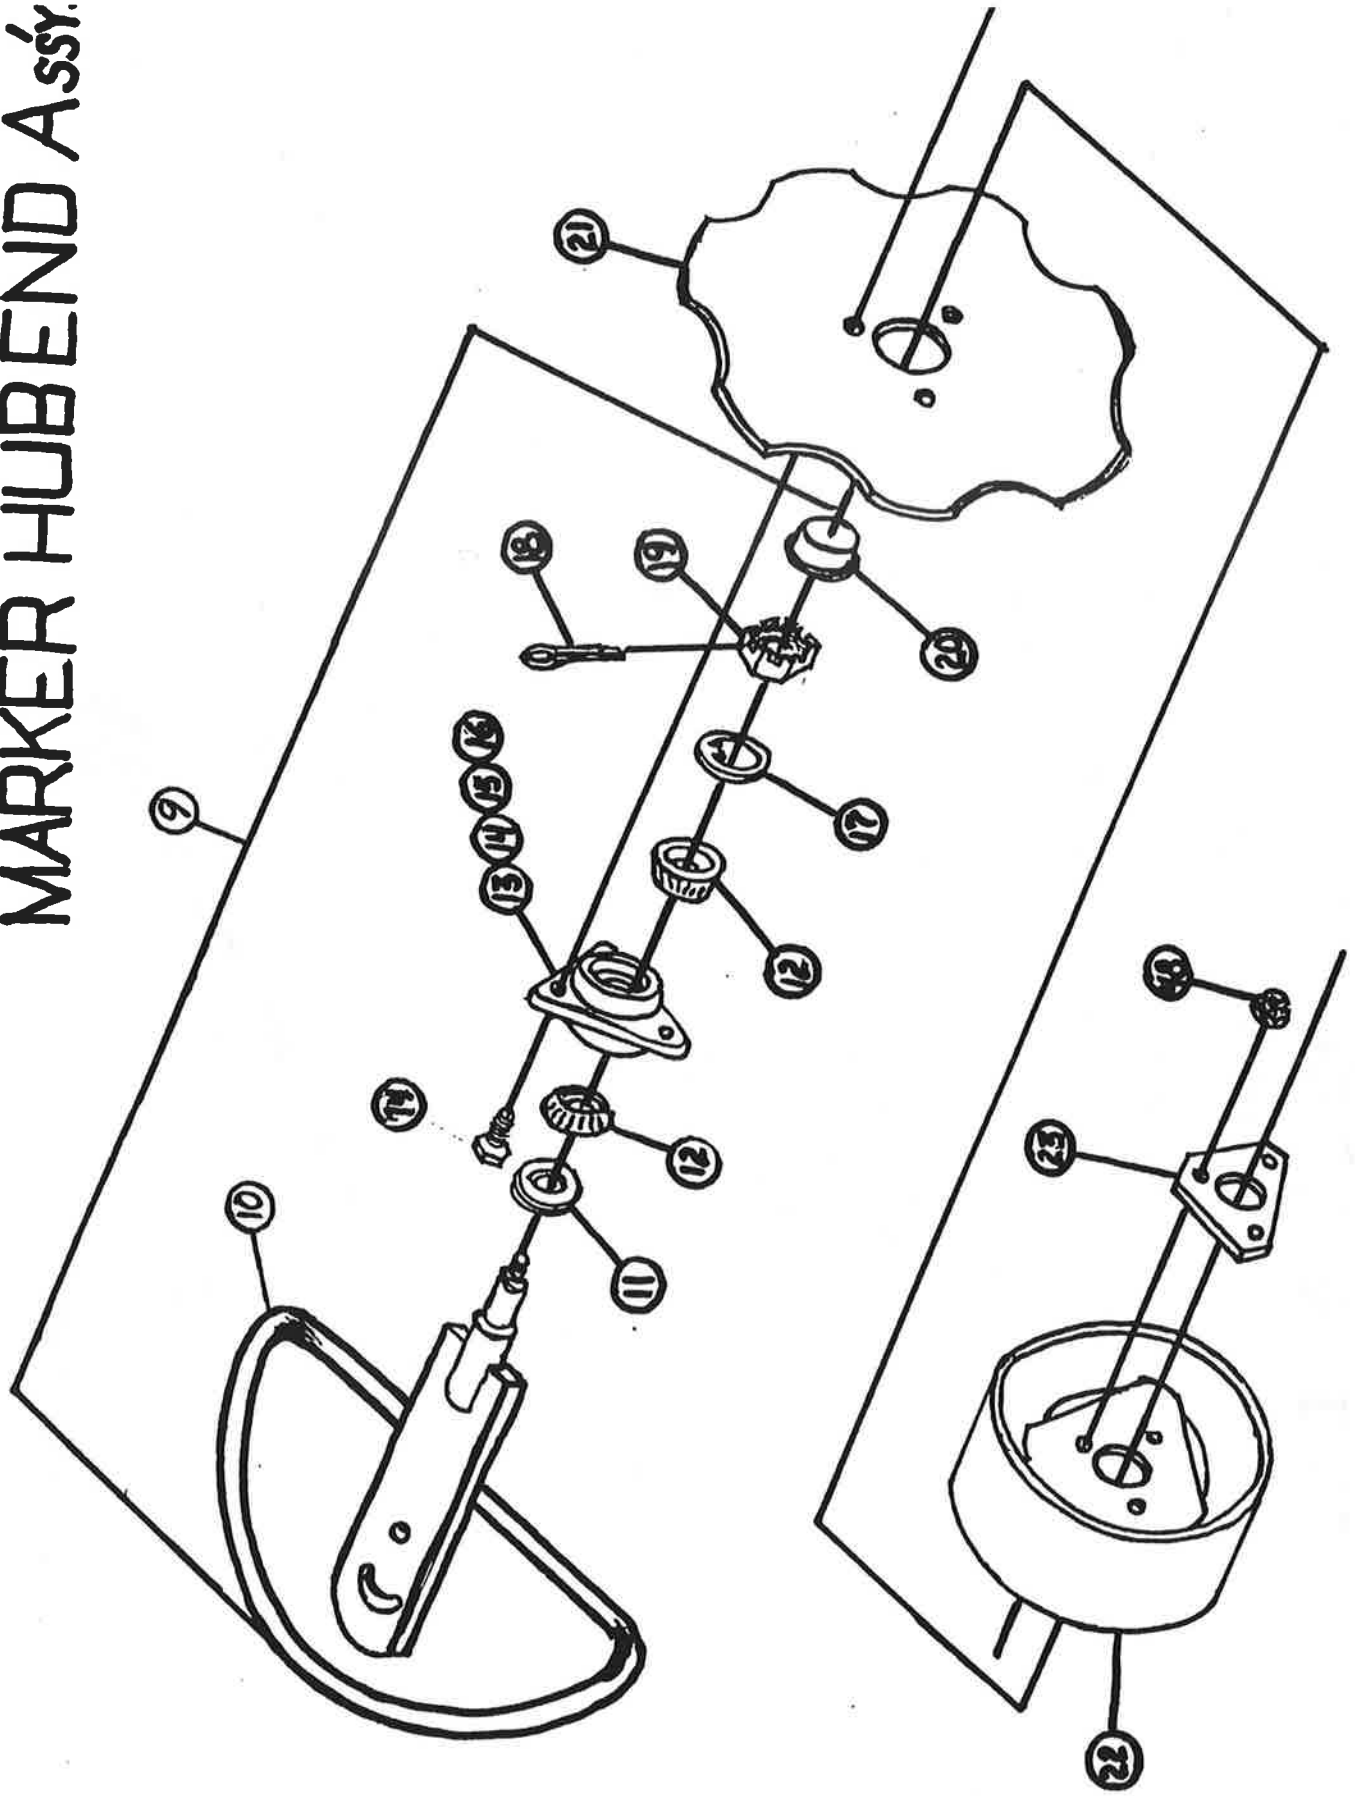

FIGURE 3
Step 4 Marker Hub End Assembly item (9) is shipped partially assembled. Some of the following steps are for reference or service only. See figure 3. Assemble one Marker Hub End Assembly (9) by: